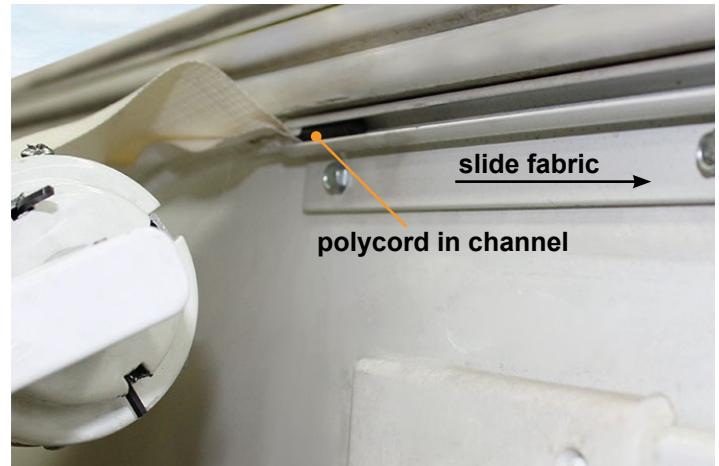

Fig.6
4. Using at least two people, feed the black polycord through the awning rail channel (**Fig.6**).